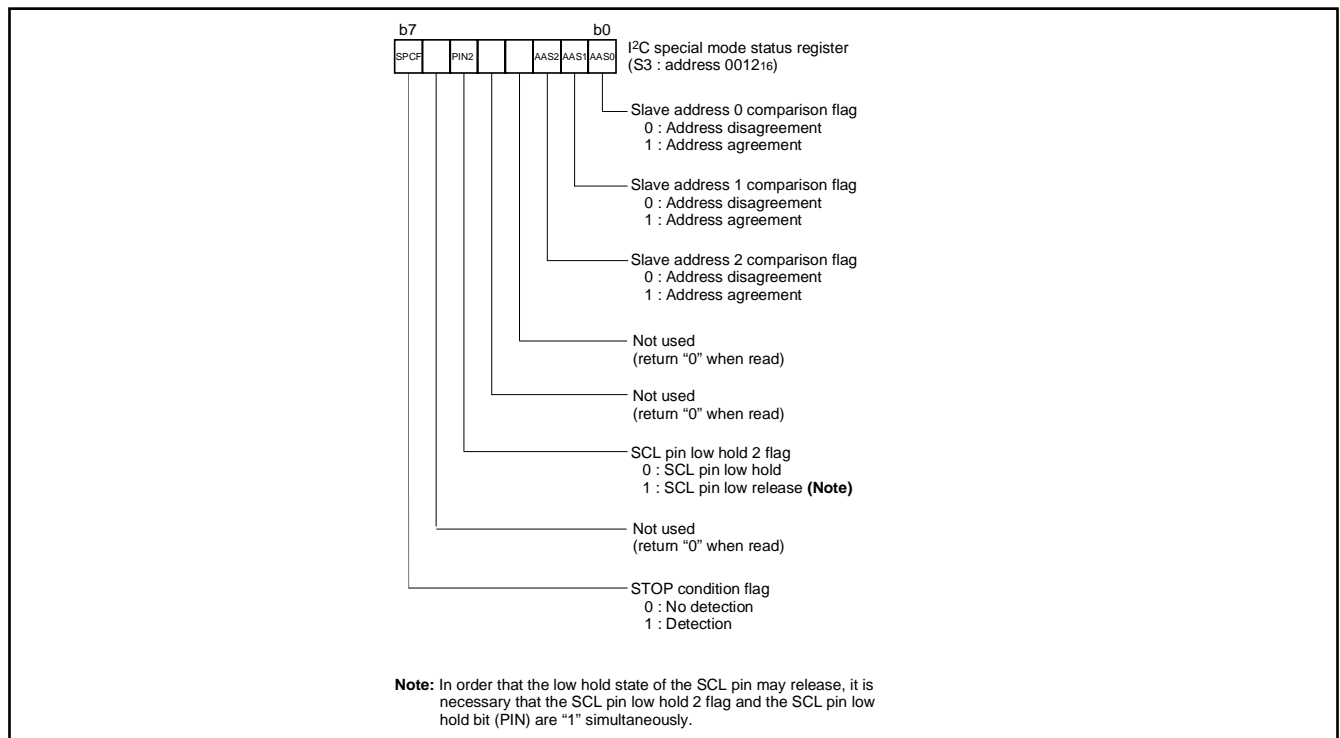

Fig. 75 Structure of I²C special mode status register
① 7-bit addressing format
To adapt the 7-bit addressing format, set the 10BIT SAD bit of the I²C control register (S1D: address 0014₁₆) to "0". The first 7-bit address data transmitted from the master is compared with the high-order 7-bit slave address stored in the I²C slave address register. At the time of this comparison, address comparison of the RWB bit of the I²C slave address register is not performed. For the data transmission format when the 7-bit addressing format is selected, refer to Figure 75, (1) and (2).
② 10-bit addressing format